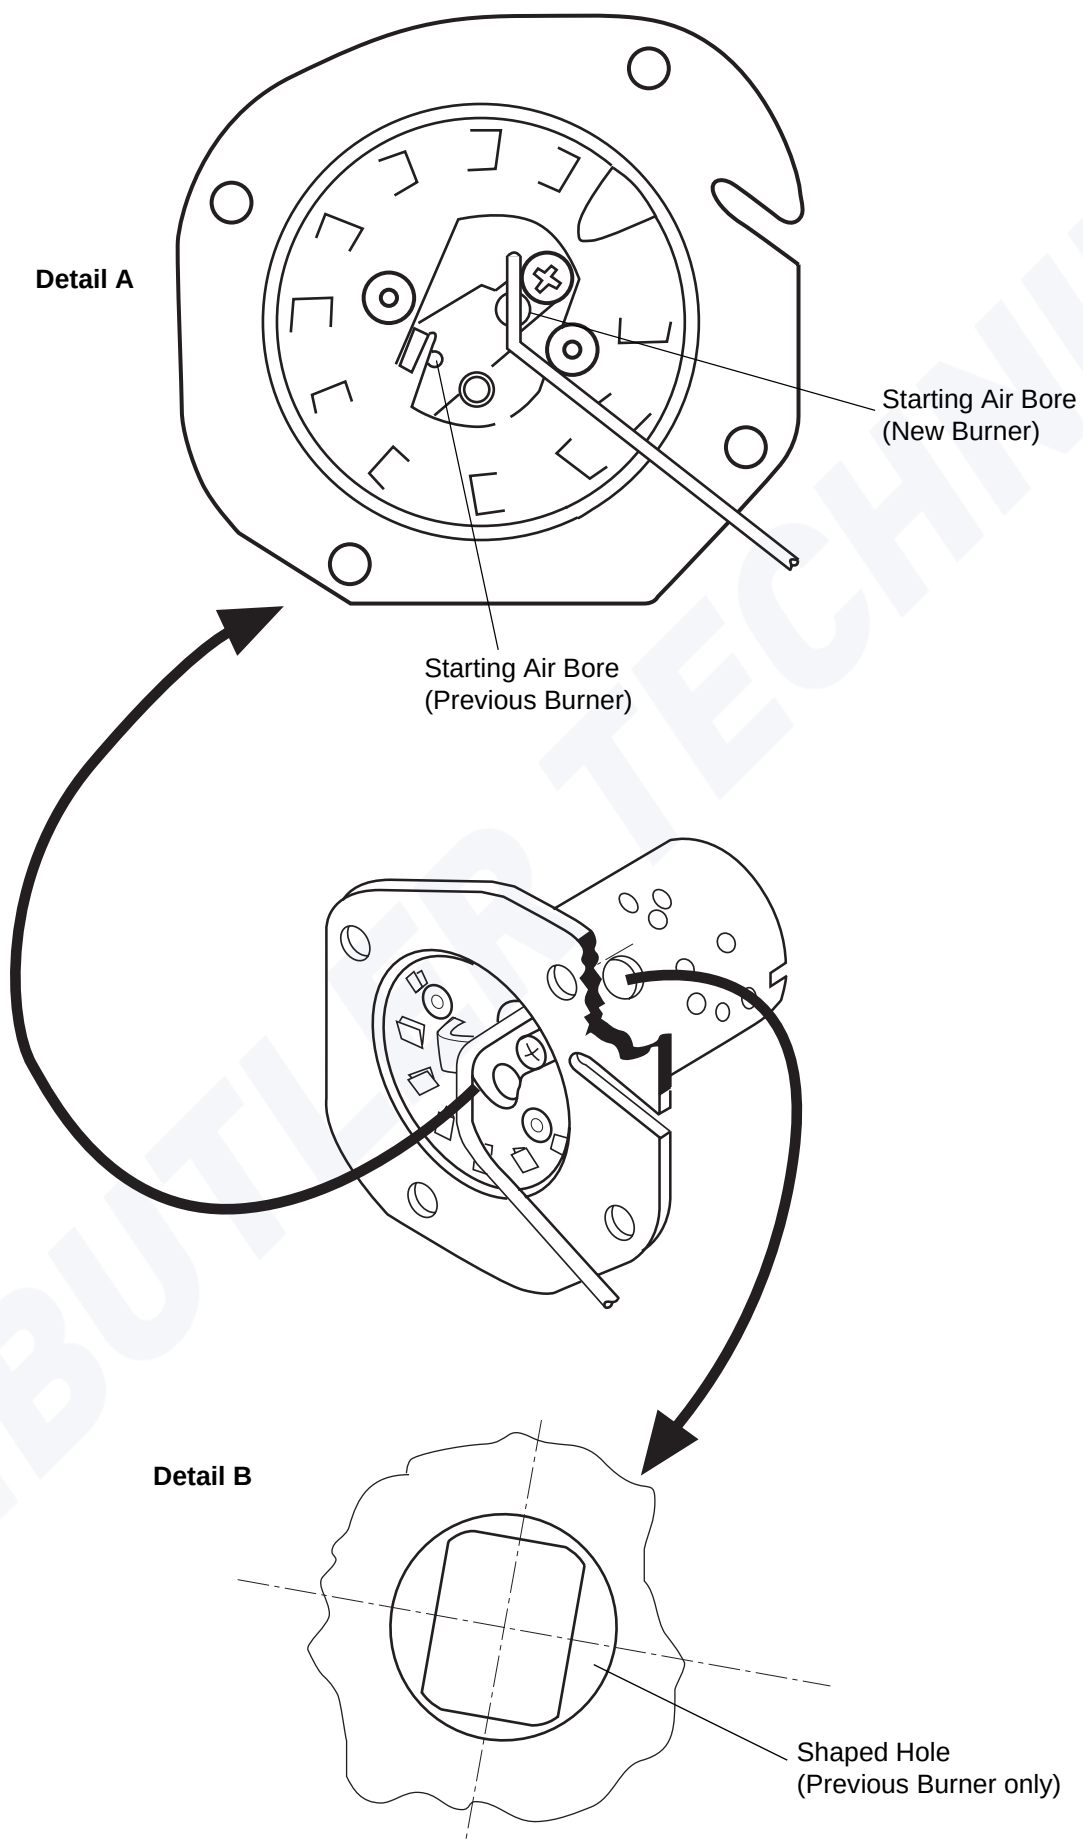

Fig. 904 Disassembly of Heat Exchanger (Sheet 2 of 2)
4. Remove 2 screws (3, Fig. 904) and spoiler (2) for cable protection.
5. Push out cable grommet (10) towards inside.
6. Carefully bend up locking tab (4) and withdraw flame sensor (1) from burner insert (5).
Burner insert may be fastened with self-cutting Ejot DG screws or with sheet metal screws (3, Fig. 904).
4. Push out cable grommets (9 and 10, Fig. 904) towards inside.
5. Remove four screws (3) and spoiler (2).
6. Tilt and withdraw burner insert (5) carefully.
The burner insert may be fastened with self-cutting Ejot DG screws or on older heater models with sheet metal screws (3, Fig. 904).
1. Insert new gasket (7, Fig. 904) into heat exchanger and bring combustion tube (6) in assembly position.
6. Remove burner insert (5, Fig. 904).
7. Withdraw combustion tube (6) from heat exchanger (8) and remove gasket (7).
2. Fit new gasket (7, Fig. 904).
3. Bring combustion tube (6) in assembly position.